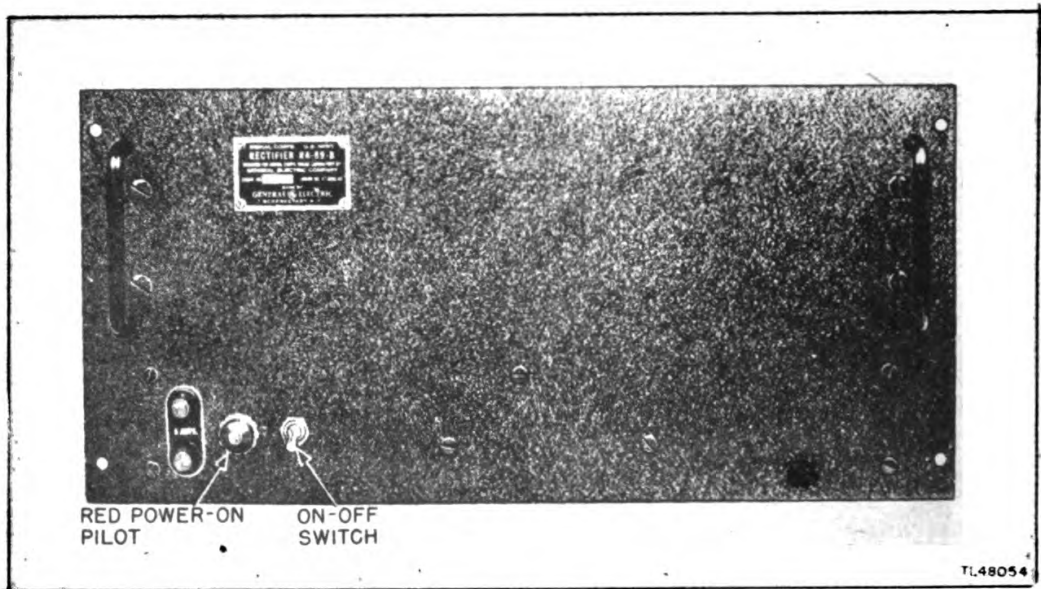

Figure 9. Plan Position Rectifier RA-69-B, front view.
12. PLAN POSITION RECTIFIER RA-69-B (fig. 9).